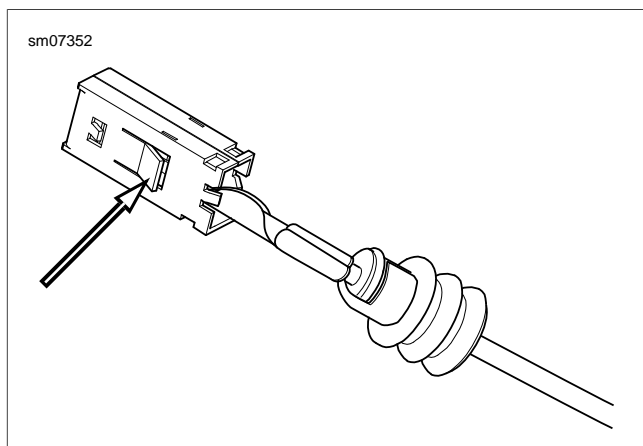

Figure A-5. Tangs: Bosch Compact 1.1M Socket Terminal
1. See Figure A-5. Use a hobby knife to bend the tangs on each side of the terminal outward.